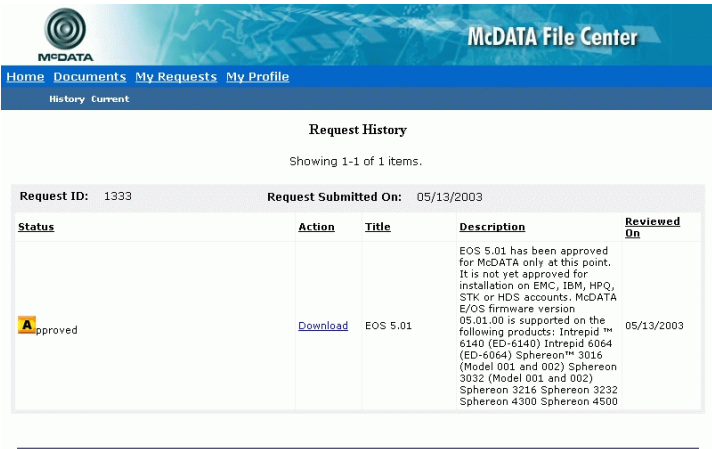

Figure 4-27 McDATA File Center (Request History Page)
- Click *Submit Request*. The *Request Submitted* page displays and the request for approval is e-mailed to the McDATA solution center. Wait five to ten minutes for a response from McDATA, then select (click) the *My Requests* option at the top of the page. The *Request History* page displays (Figure 4-27) with the approved request.